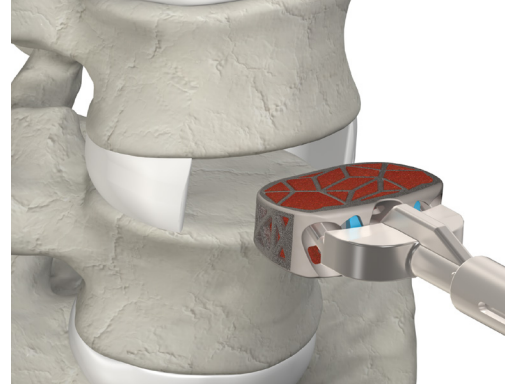

Figure 29
- ▲ Insert the implant into the disc space (Fig. 29 and 30). Use fluoroscopy to confirm proper position and placement of the implant.